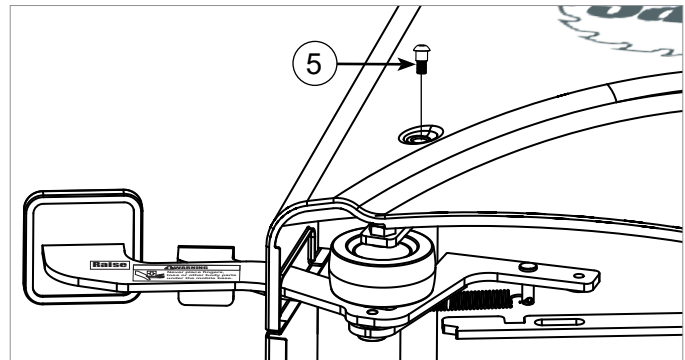

Fig. 14
14. Align the front end of the wheel support with the mounting hole in the lower left corner of the front of the cabinet. Secure that end of the wheel support to the cabinet with an M8 x 20 button head shoulder socket bolt (see Fig. 14). Note that this bolt is different than the bolt used to secure the rear of the wheel support to the cabinet. Fully tighten the bolt using a 5 mm hex key.